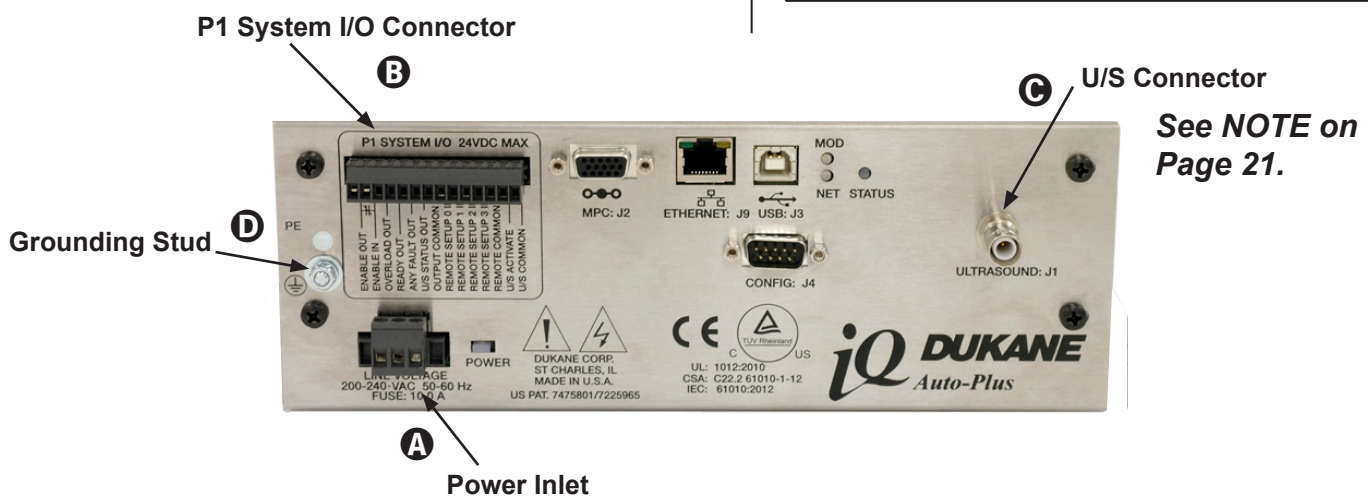

Figure 3-2 Generator Front View
The chassis grounding stud is used to attach a protective earth ground to the generator. This helps suppress electrical interference or radio frequency interference (RFI) that is common in an industrial environment. Stud location is shown in Figure 3-2 on the following page.
3. Attach a high-voltage coaxial ultrasound cable (from the ultrasonic probe) to J1, the ultrasound output connector - **C** in Figure 3-2.